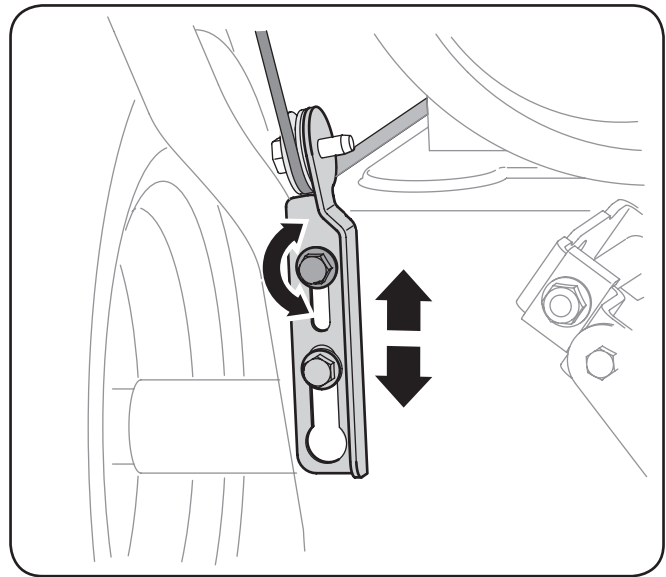

Fig. 3-16
4. Allow the auger to remain engaged for approximately ten (10) seconds before releasing the auger control. Repeat this several times.
7. To readjust the control cable, loosen the upper hex screw on the auger cable bracket. Position the bracket upward to provide more slack (or downward to increase cable tension). See Fig. 3-16.